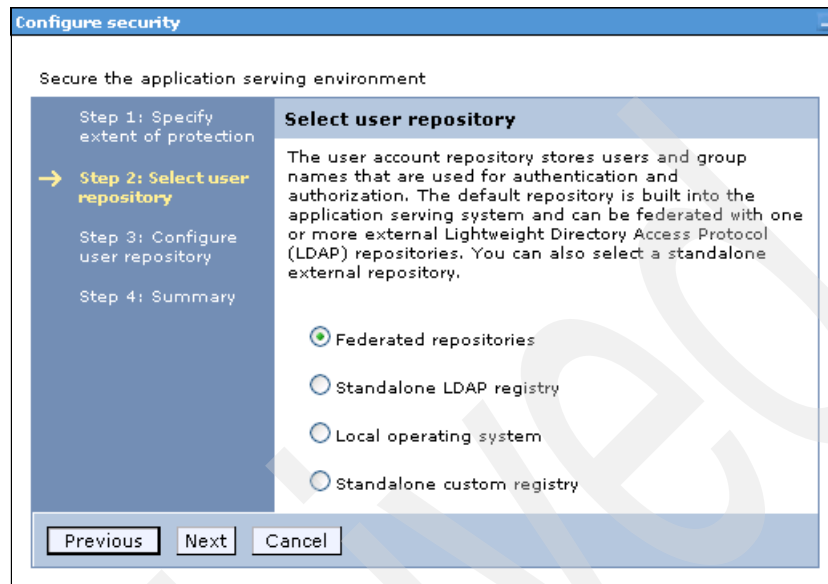

Figure A-16 Security Configuration Wizard: Step 2 for WebSphere Business Monitor
4. In the Step 2: Select user repository panel (Figure A-16), select **Federated repositories** and click **Next**.